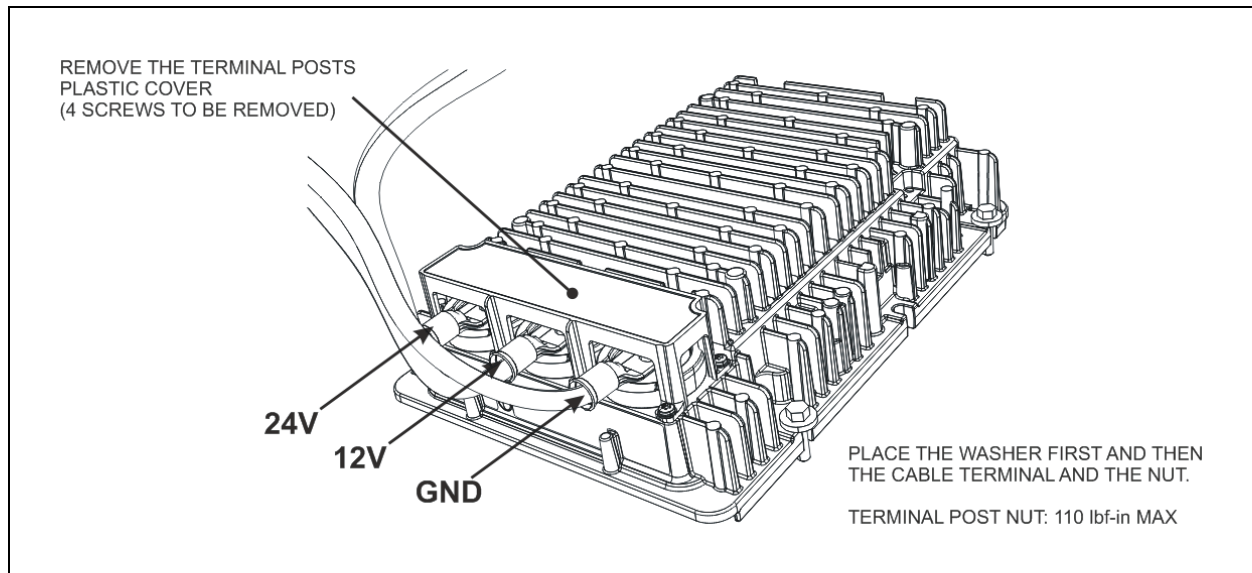

FIGURE 3: NEW BATTERY EQUALIZER SURE POWER 21100E00 (PREVOST 563829)
8. Remove the terminal posts plastic cover (figure 3).
9. While proceeding one by one, connect the 12-volt (**12VA**) and 24-volt (**24VA**) cables to the equalizer 12V and 24V posts respectively, using the saved hardware (figure 3).